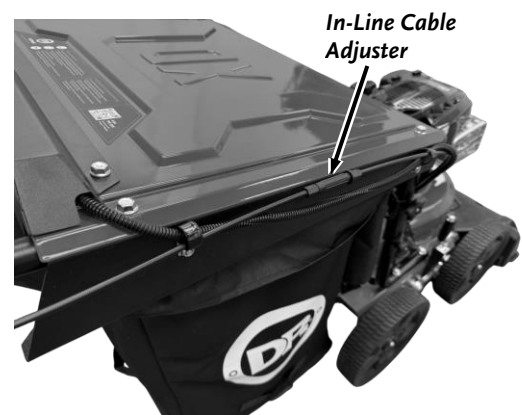

Figure 34
1. Locate the Traction Drive Cable along the Right Side of the Handlebar (**Figure 34**). There is an In-Line Adjuster to change the length of the Cable.